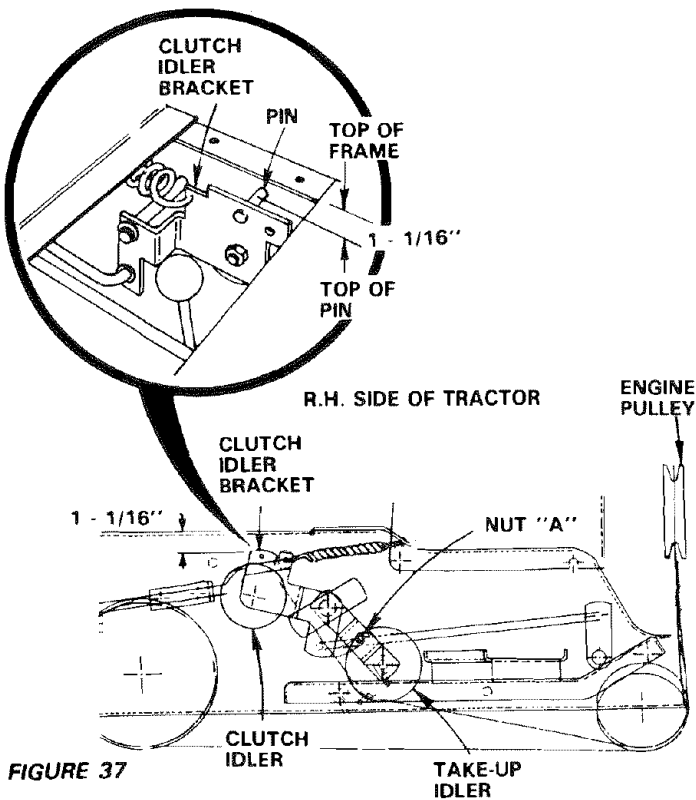

FIGURE 37
- e. Check position of clutch idler bracket (Fig. 37).
- f. Repeat steps (b) thru (e) until 1 - 1/16" dimension is obtained between top of pin and top of frame as shown in Fig. 37.
- h. Reinstall shift cover plate and (4) screws removed in step (a).